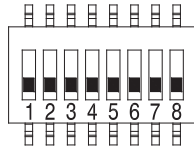
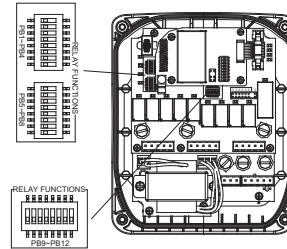

Fig. 13
Fig. 14
Each dipswitch on the decoder/relay board corresponds to four (4) pushbuttons on the transmitter handset or four (4) output relays on the decoder/relay board (see **Fig. 13** and **Fig. 14**).